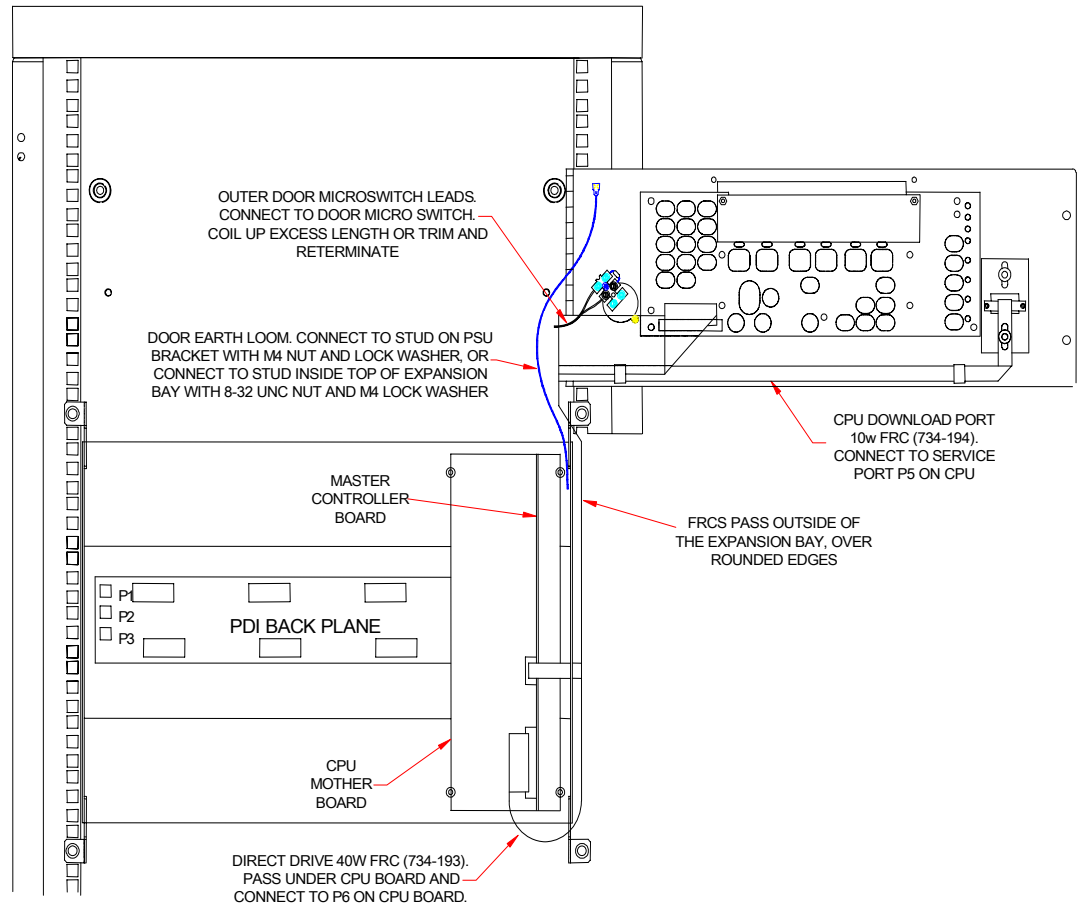

Figure 5 – Fitting replacement 4U LCD door to 4100U cabinet
- Fit the replacement door. Connect the earth looms and FRCs as described in Figure 5.